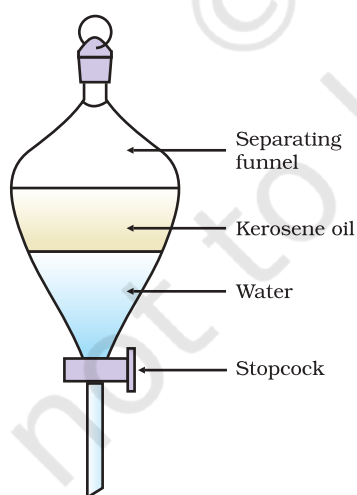

Fig. 2.6: Separation of immiscible liquids
- Pour the mixture of kerosene oil and water in a separating funnel (Fig. 2.6).